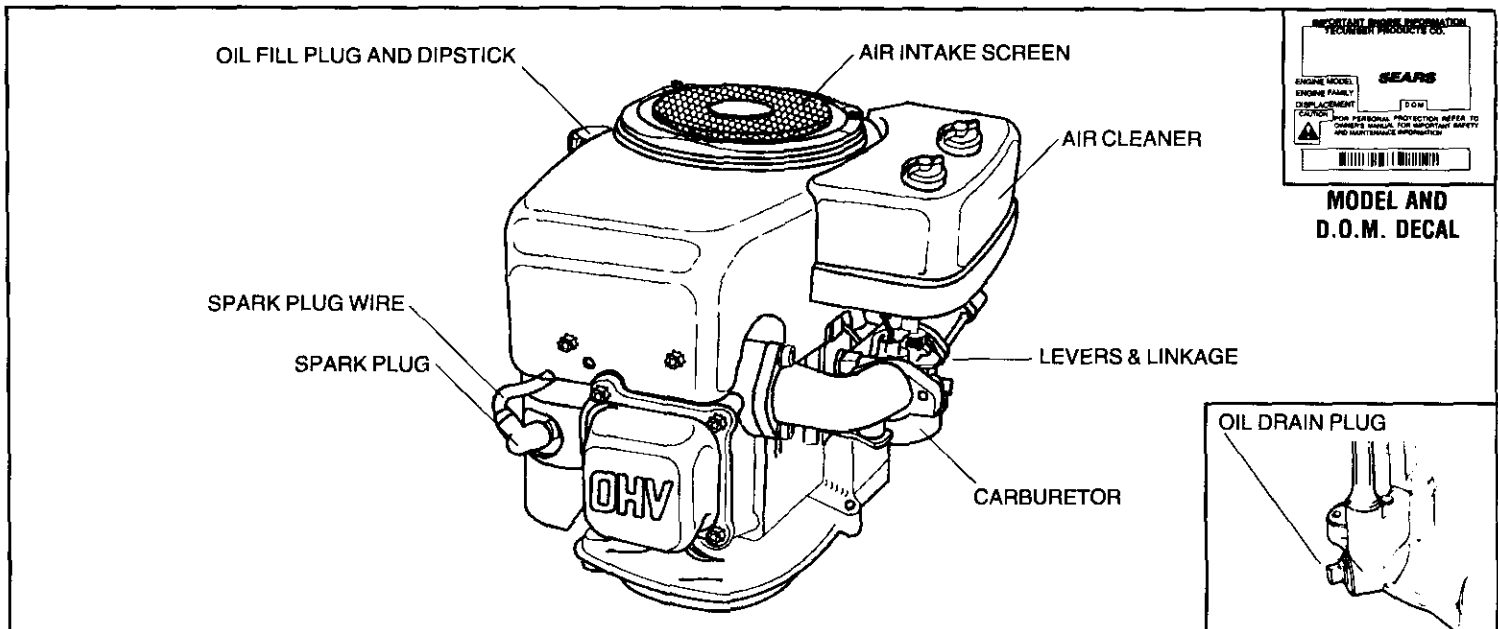

Figure 1
B. Clean area around oil fill plug (see Figure 1).
B. Be sure spark plug wire is attached to spark plug (see Figure 1).
⚠ BE SURE AIR INTAKE SCREEN (see Fig. 1) IS SECURELY IN PLACE TO AVOID CONTACT WITH MOVING PARTS.